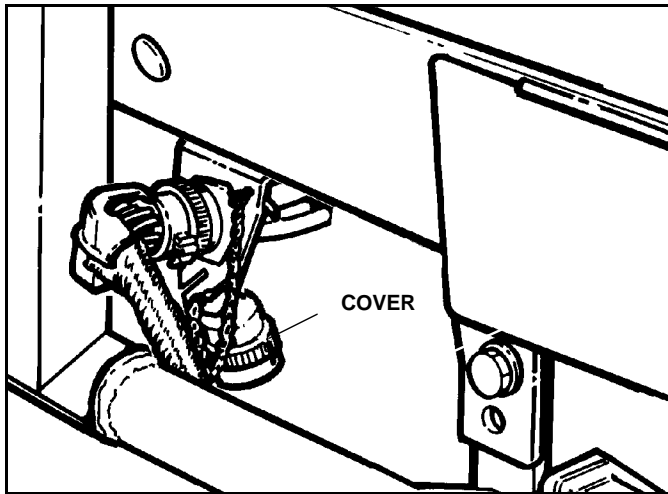

Figure 1-14
- Align the two harness connector halves, push the Plow end connector onto the vehicle connector and rotate clockwise to lock. (See Figure 1-14)